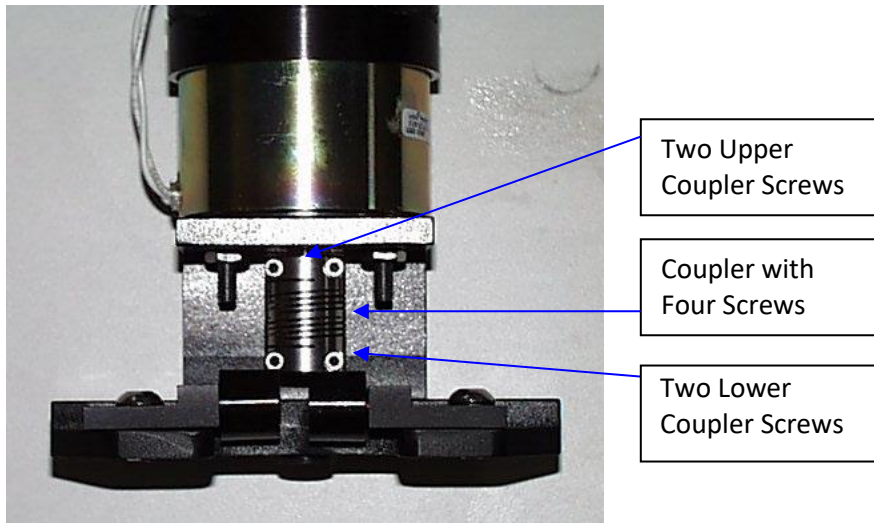

Figure 41: QCD Diverter and Solenoid
1. Loosen the four screws on the coupler and the two screws that hold the bumpers in place (Figure 41). Tighten the two upper screws on the coupler.